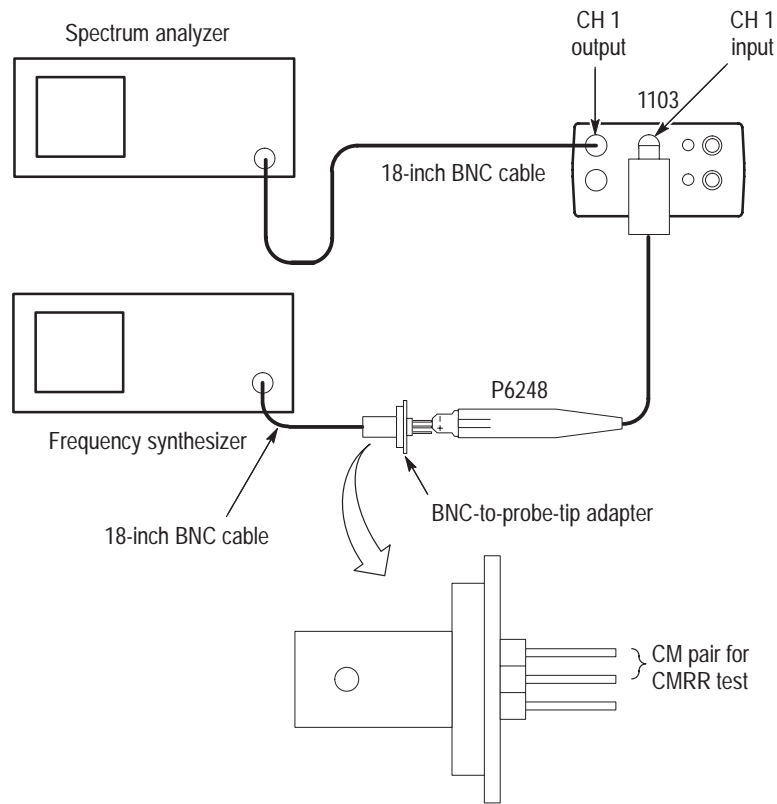

Figure 19: Setup for the CMRR tests
2. Remove the BNC cable from the 1103 input, and insert the adapter and probe as shown in Figure 19. Use the CM pins of the BNC to probe tip adapter.
12. Remove the BNC cable from the 1103 input and insert the adapter and probe as shown in Figure 19. Use the CM pins of the BNC to probe tip adapter.